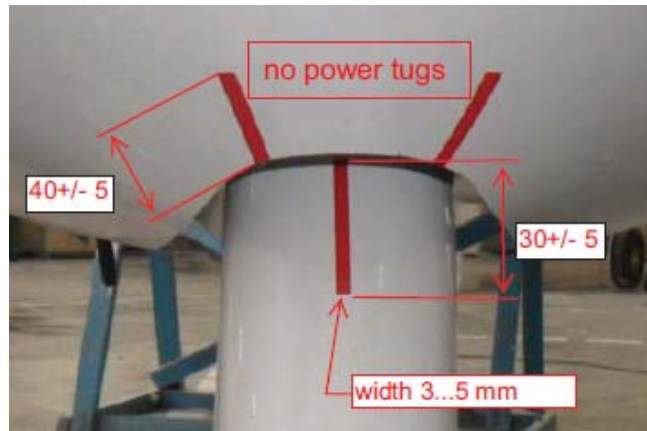

Fig. 1
Prepare three pieces of red film, in accordance with Fig. 1.
5. Install the “No Power Tugs” sticker as shown on Fig. 1.